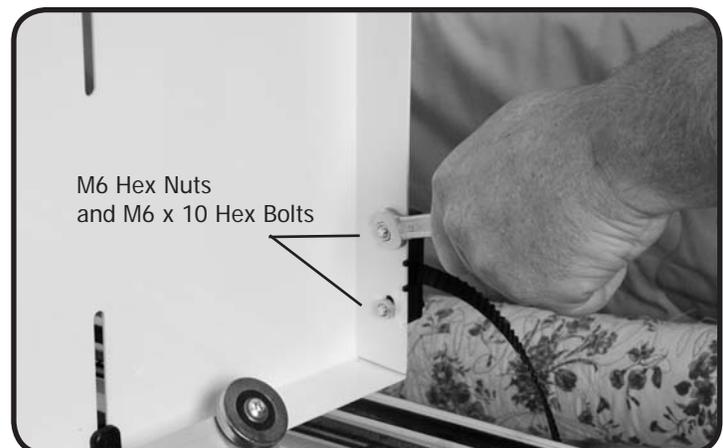

Fig. 3-4
Step 3-2: Next, place one end of the Short Belt in between the Belt Clamp Front and Belt Clamp Back as shown in Fig. 3-2 and Fig. 3-3. Note the way that the teeth on the belt are facing, they should be facing up or towards the carriage top. Attach the belt clamp with the belt to the front of the bottom carriage using (2) M6 x 20mm Hex Bolts and (2) M6 Hex Nuts as shown in Fig. 3-4.